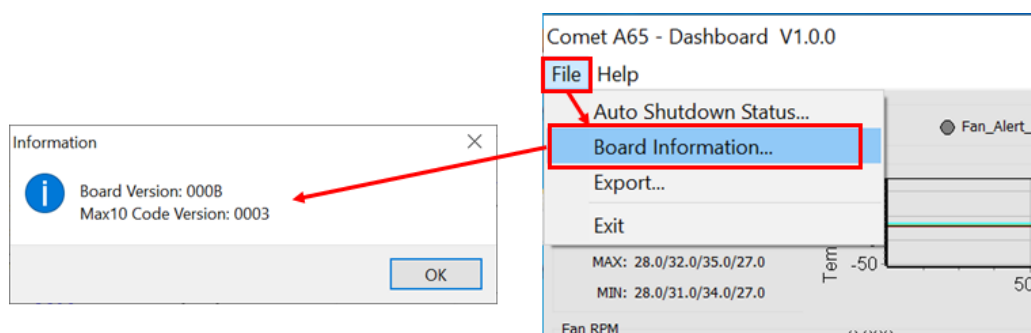

Figure 3-16 Board Information
- **Board Information:** There is a **File** page on the upper left of the Dashboard GUI program window, click the **Board Information** to get the current software version and the Comet A65 SOM Evaluation Kit version, as shown in **Figure 3-16**. *Note, user needs to stop the system monitor (press the “**Stop**” button on the Dashboard GUI), then you can run the Board Information.*